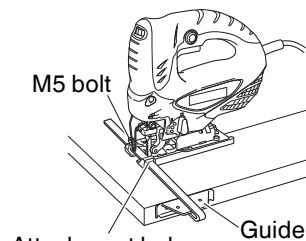

Fig. 10
- (3) Attach the guide by passing it through the attachment hole on the base and tighten the M5 bolt. (Fig. 10)
- (4) Set the orbital position to "0".